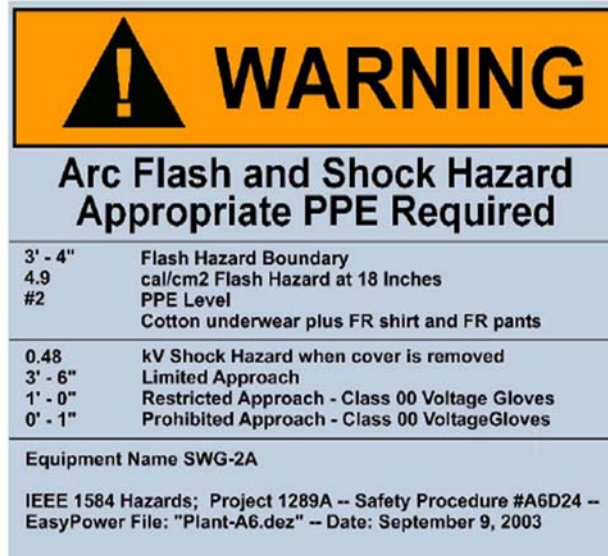

Figure 1
1. Figure 1: Example Arc Flash Label.